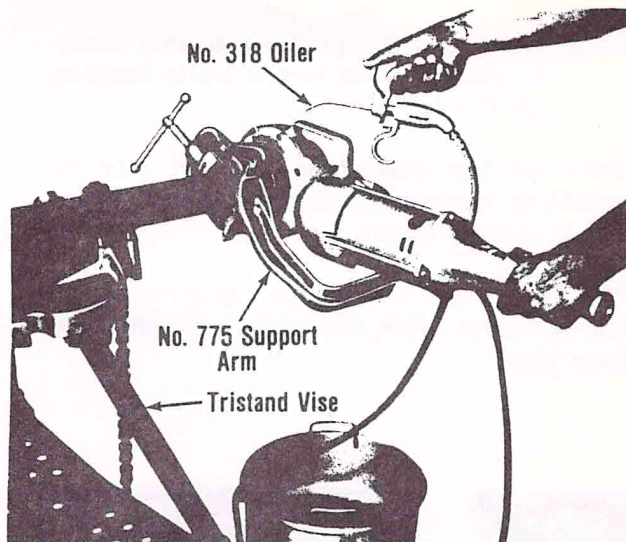

Figure 4. Threading 2" Pipe with Vise.
Warning: When threading pipe 1 inch or larger, the No. 775 Support Arm should be used and securely locked on pipe because of torque developed during threading (Figs. 4 and 5).
3. Position No. 775 Support Arm on pipe so end of tang is in line with end of pipe (Figs. 4 and 5).